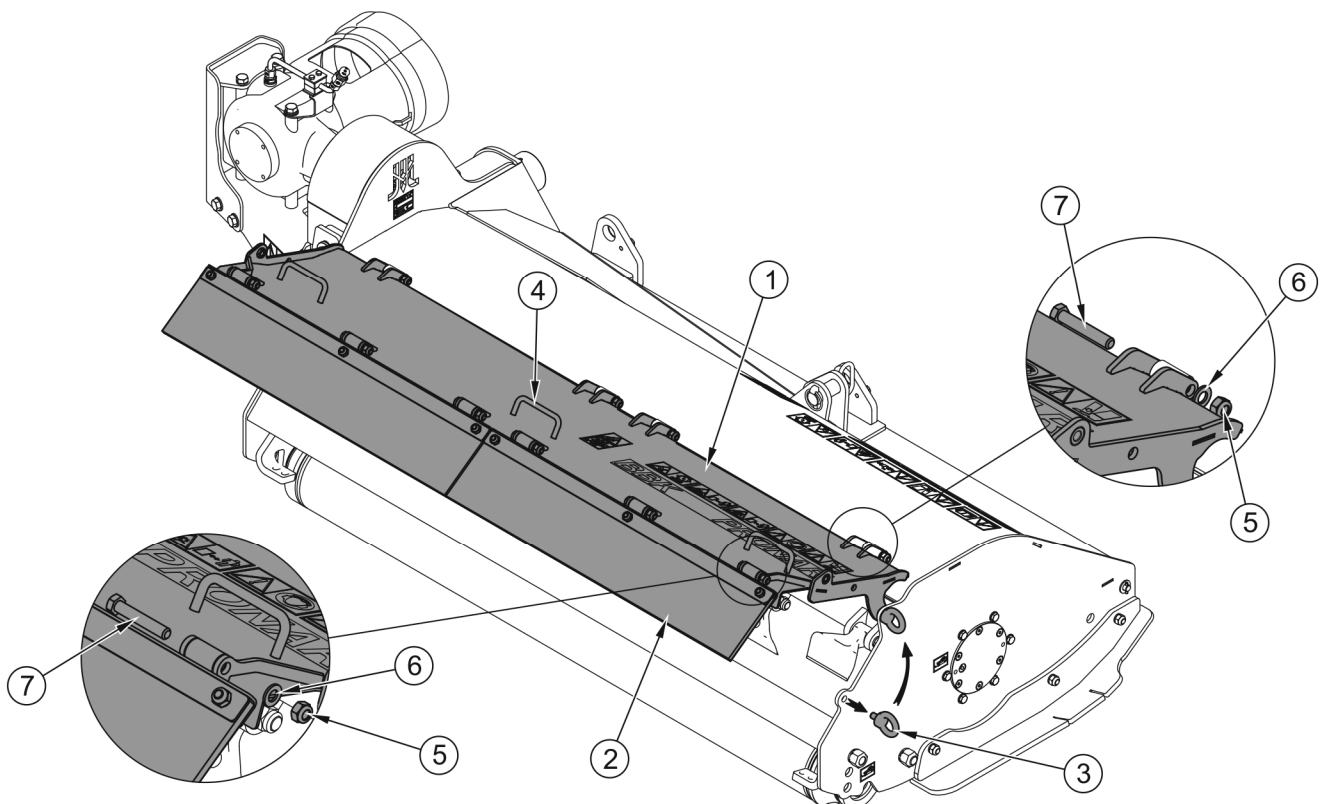

FIGURE 5.1 Opening and removal of liftable shield
- unscrew eye bolts (3) on both sides of the cutting unit (3),
- raise the shield using handles (4),
- tighten eye bolts (3) as shown in FIGURE 5.1.